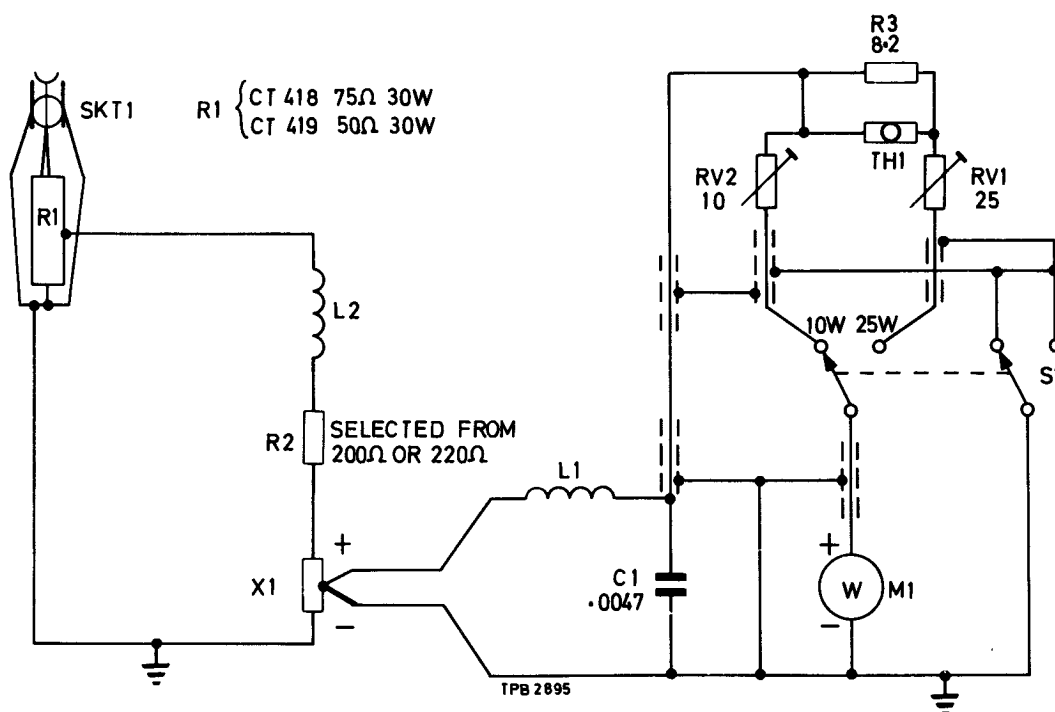

Fig. 5 Wattmeters CT418 and CT419 : modified circuit
5. Instruments with serial numbers prefixed 52555 and above have a thermistor, TH1, with a shunt resistor, R3, added in series with RV1 (Fig.5) to improve the temperature characteristic on the 25 W range.